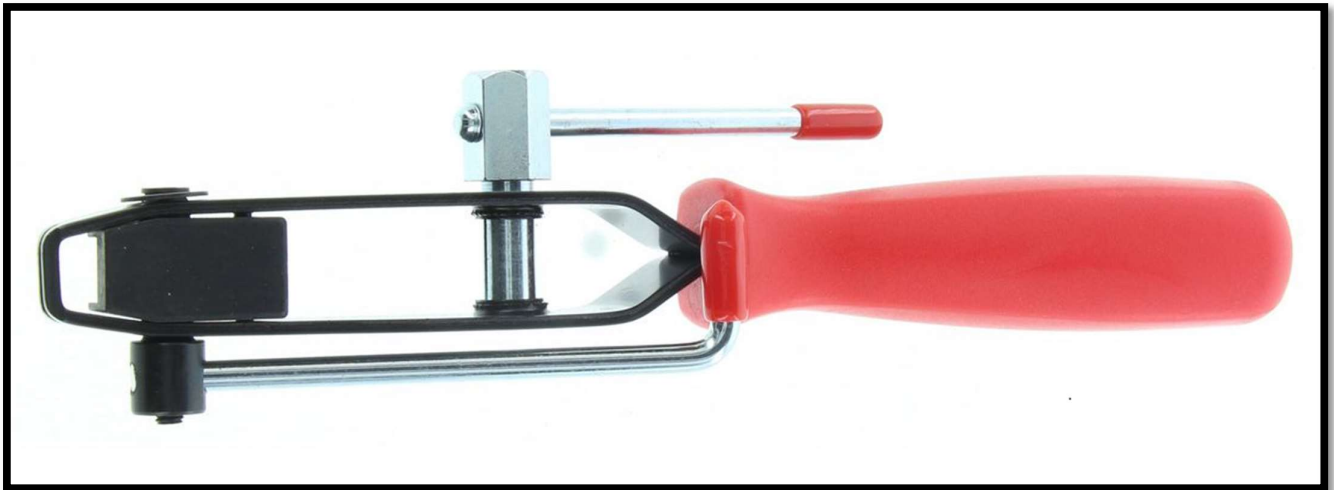

Figure 2
13. Tighten the two lower steel cable ties using an appropriate tool. [Figure 2]